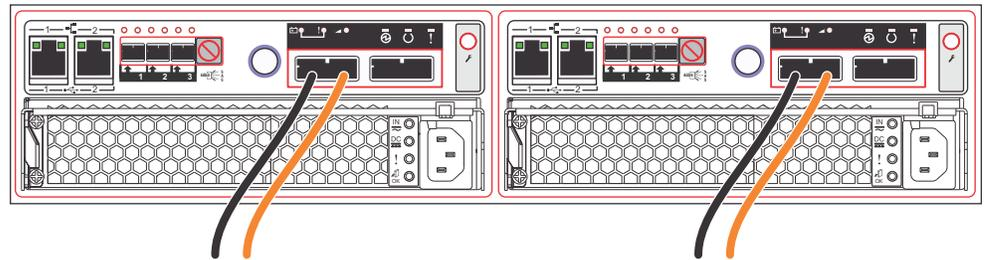

Figure 19. Example configuration with two Fibre Channel cables per canister
**Note:** Both canisters must have the same number of cables connected. Figure 19 shows an example configuration with two Fibre Channel cables connected to each canister.